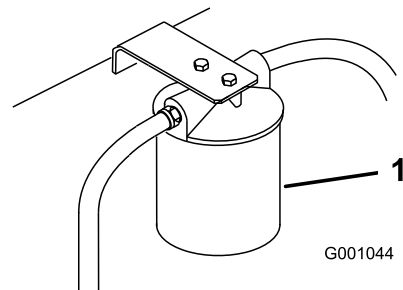

Figure 77
4. Place drain pan under filter, remove the old filter and wipe the filter adapter gasket surface clean (Figure 77).